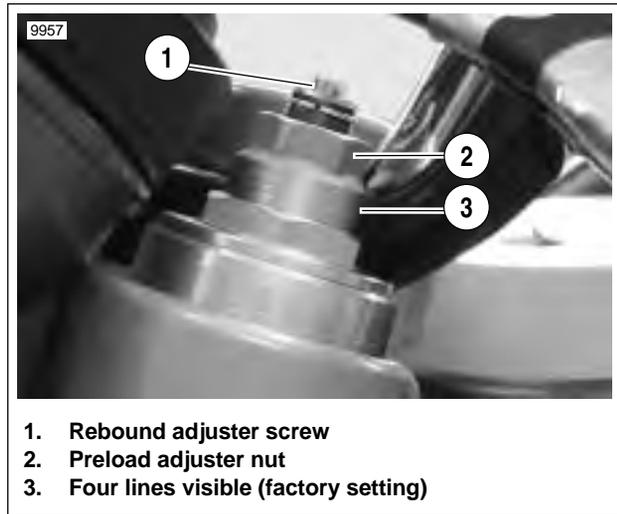

Figure 1-29. Front Fork Preload And Rebound Adjuster
1. Check number of lines (3) to be showing for your load condition. Refer to Table 1-9.
2. See Figure 1-29. Adjust preload by turning the adjuster nut (2) with a wrench.
1. See Figure 1-29. Using a screwdriver, turn the slotted dial (1) clockwise until it stops. This is the maximum rebound damping setting.
1. See Figure 1-29. Using a screwdriver, turn the slotted dial clockwise until it stops. This is the maximum compression damping setting.